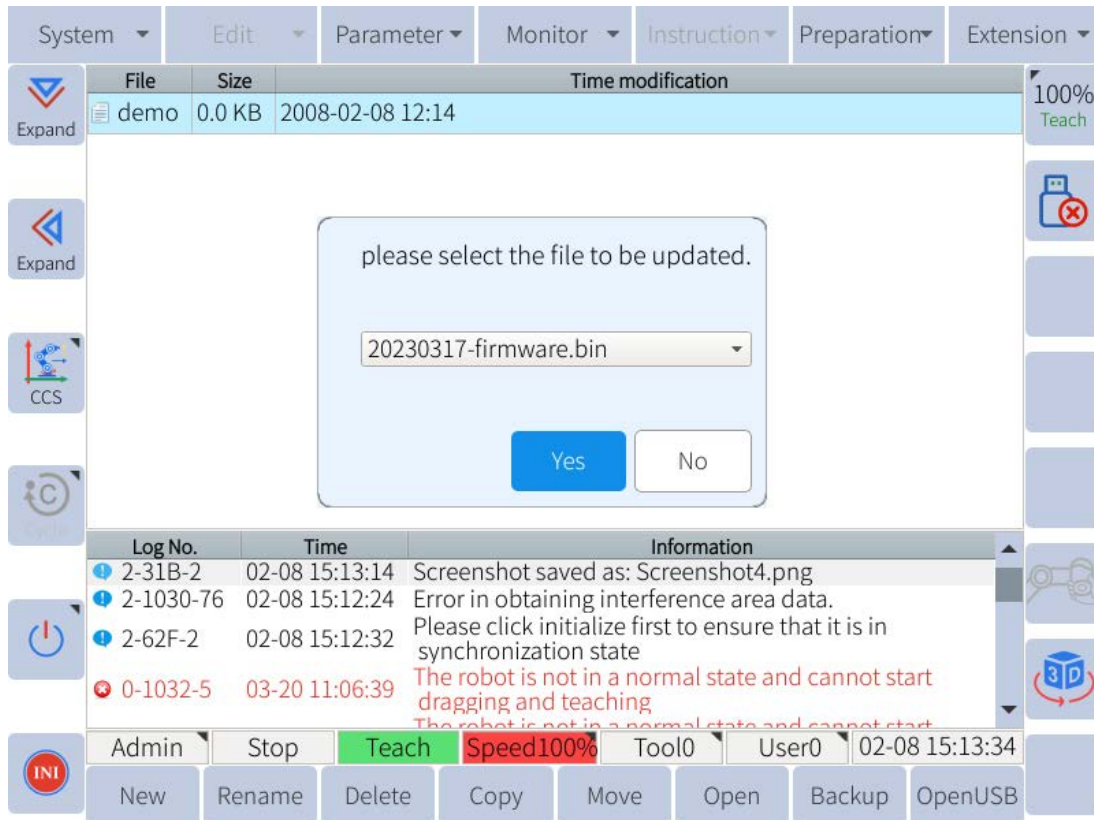

Figure 13-1 : System Upgrade
4. Go to **System -> Robot Update -> System Update**, and a dialog box with the message “please select the file to be updated” will pop up. Press “Yes” button and wait several minutes. The system will be restarted after the successful update, as shown in **Figure 13-1** .